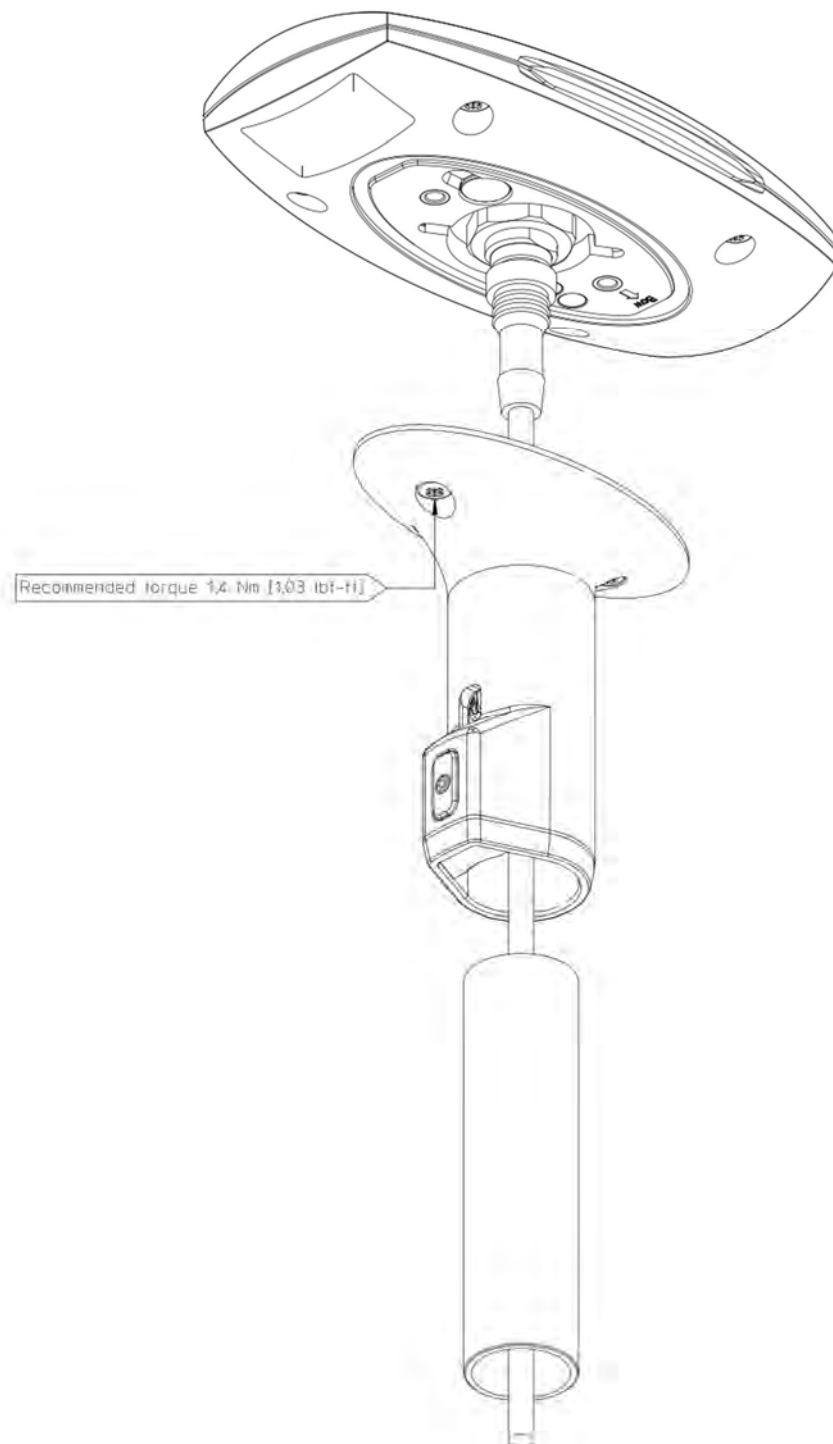

FIGURE 16: POLE MOUNT INSTALLATION STEP 6 (SECURING THE TWO STAINLESS A4 SCREWS)
Step 6: Fasten the pole mount by securing the two stainless A4 screws onto the LT-1000 NRU as illustrated in Figure 16.